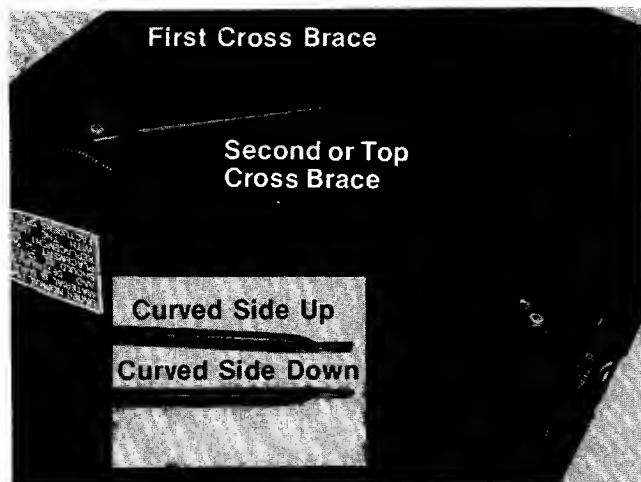

FIGURE 18.
6. Turn the grass catcher over bottom side up. Place the cross braces (AA) in position as shown in figure 18. Please note first brace will have the curved side down. The top brace will be positioned with the curved side up. See figure 18.